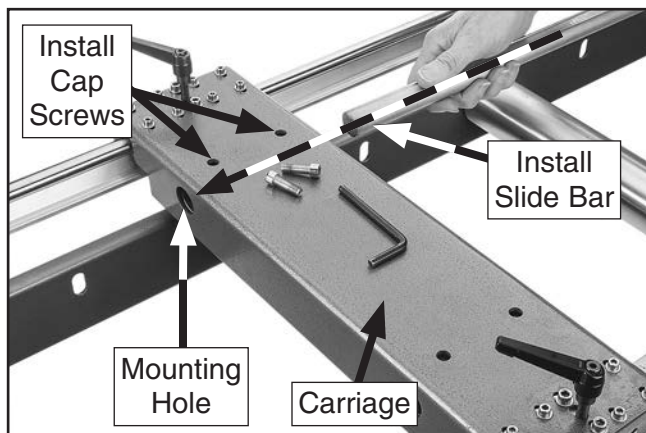

Figure 10. Installing slide bar in carriage.
- Place slide bar in other mounting hole and secure with cap screws removed in **Step 3** (see **Figure 10**).